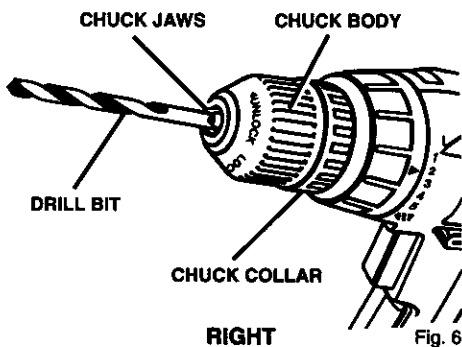

Fig. 6
See Figure 6.
- Insert drill bit into chuck the full length of the jaws as shown in Figure 6.